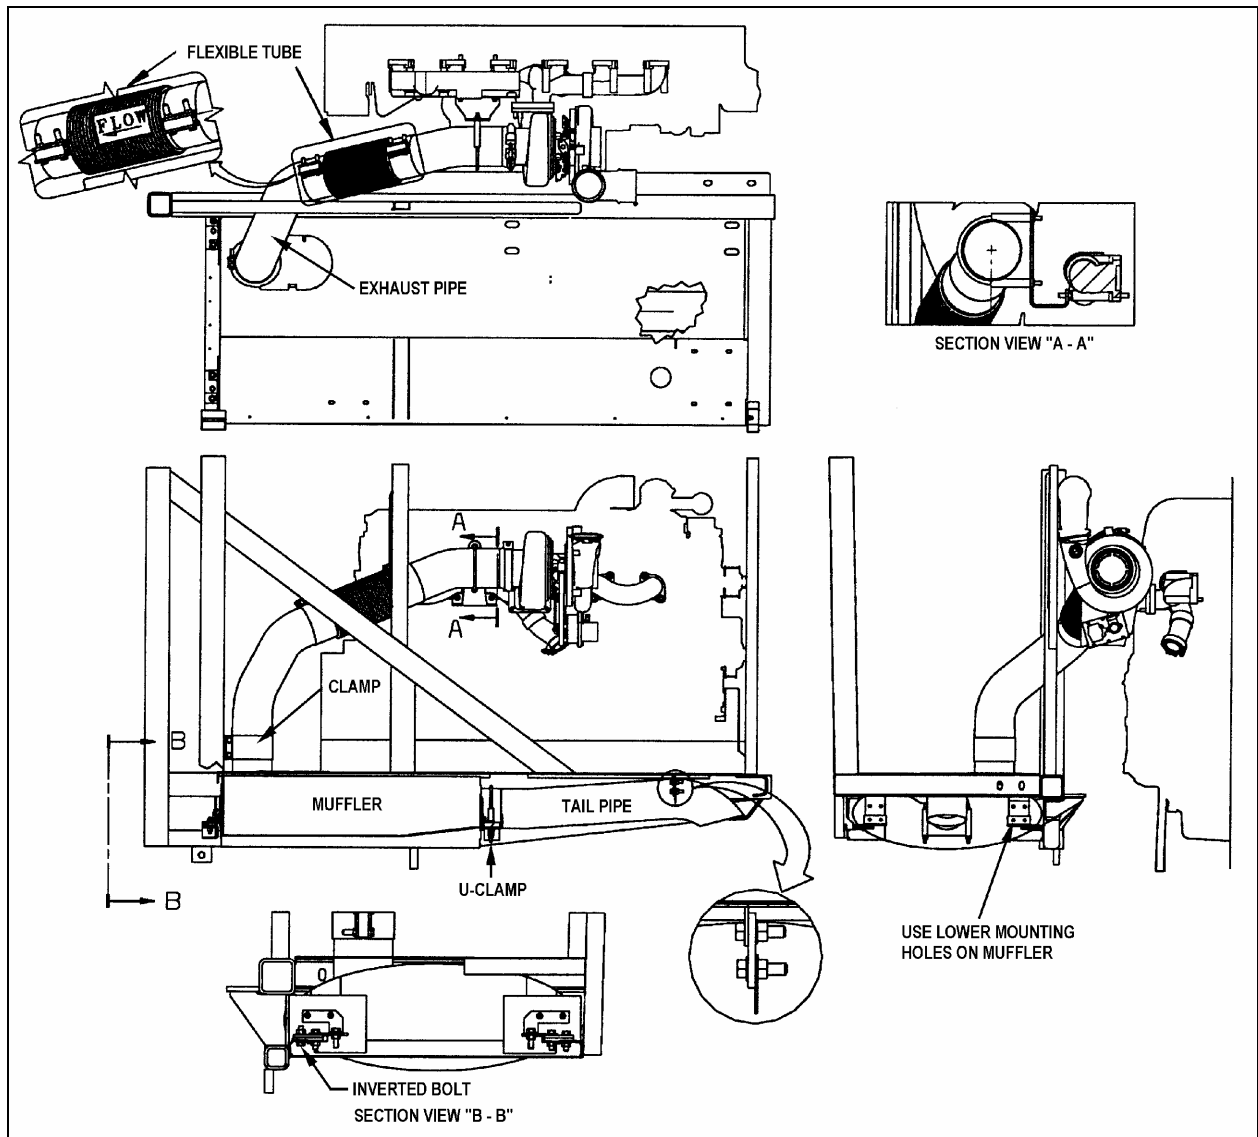

FIGURE 2: EXHAUST SYSTEM
- FIGURE 2: EXHAUST SYSTEM 3
Inspect the exhaust system periodically for restrictions and leaks. Figure 2 presents the major components of the exhaust system. Restrictions such as kinked or crimped pipes result in excessive back pressure which can lead to increased fuel consumption, power loss and possible damage to engine combustion chamber components. Exhaust leaks are commonly the result of loose clamp bolts, corroded pipes or a punctured muffler. In addition to excessive noise, a leaking exhaust system could allow toxic gases to enter the vehicle. Damage to surrounding components from hot gases could result as well. Replace damaged or corroded exhaust components immediately.